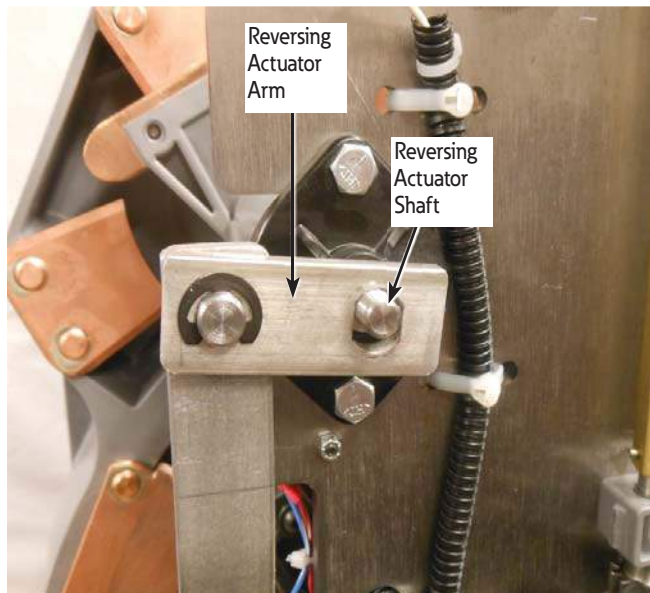

Figure 4. Removal of actuator arm
3. Lift outward on the reversing actuator arm and remove it from the reversing movable contact bushing. The reversing actuator shaft may be tapped in to allow clearance to remove the arm. See Figures 4 and 5.